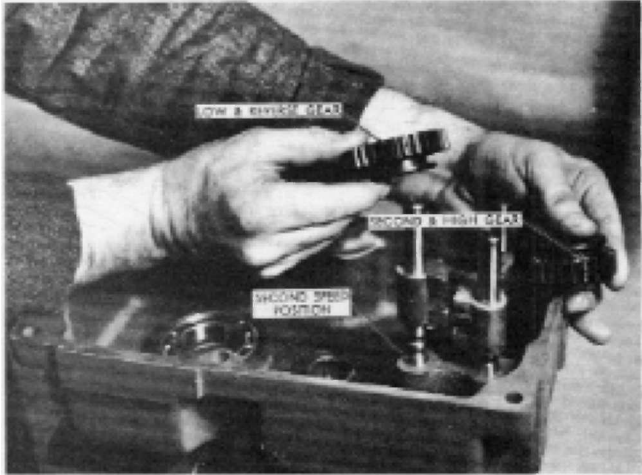

FIGURE 17
- Shift the 2nd and high shift fork into the 2nd speed position and install the 2nd and high sliding gear, and the low and reverse sliding gear in position on their respective forks. Figure 17. Note that the shift fork grooves of the sliding gears face each other, and that the smaller of the two gears is the 2nd and high gears which goes on the bottom.